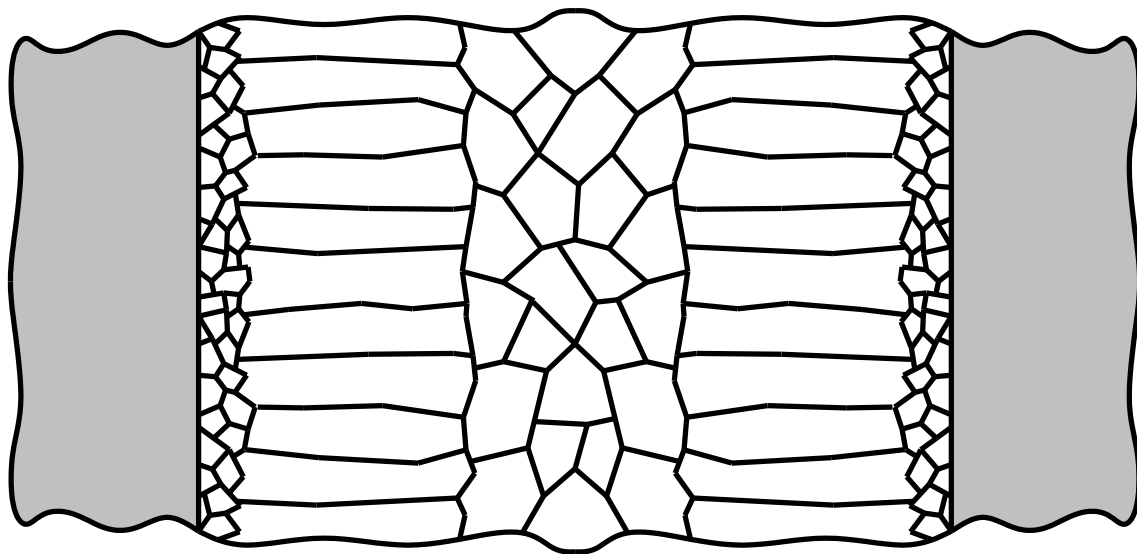

Fig. 2
- (b) Figure 2 shows the grain structures in an aluminium casting.